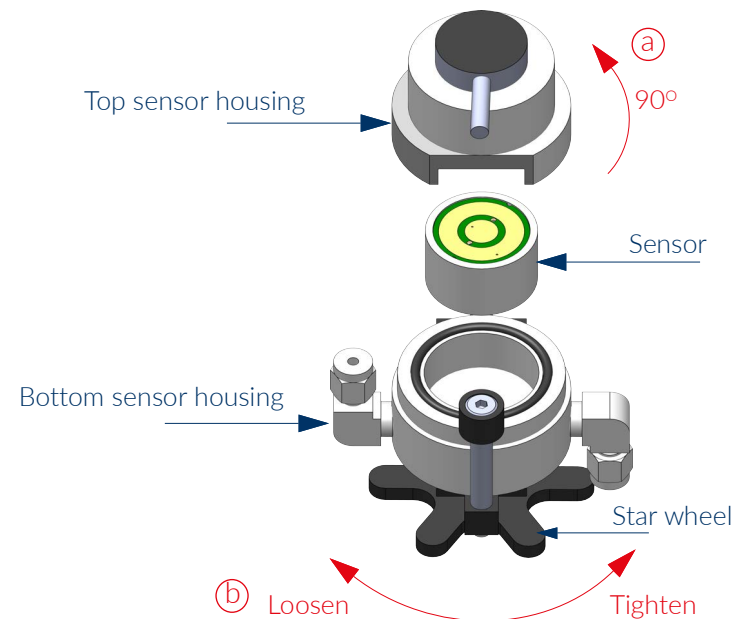

Figure 3 - Installing and uninstalling your sensor
5. Loosen the star wheel then disengage the top sensor housing by turning it 90° counter clockwise. Refer to 'b' in Figure 3 on page 5. Now lift it to expose the sensor.
12. Secure it with the star wheel at the bottom of the housing assembly (refer to 'b' in Figure 3 on page 5).